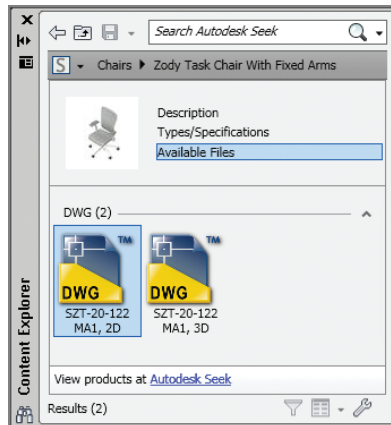

FIGURE 9.18 Selecting a specific file to download
7. Double-click the selected item. The page that appears in the Content Explorer lists the available files. Right-click the first icon—SZT-20-122 MA1, 2D—for the two-dimensional representation of this chair (see Figure 9.18) and choose Insert. The cursor displays a thumbnail image of the file with a progress bar.